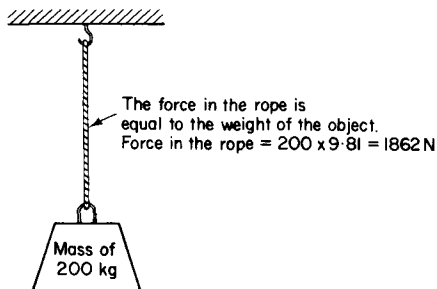

Fig. 2.1
In Fig. 2.1 a mass of 200 kg is supported on the end of a rope. The rope prevents the mass from falling to the ground and hence the force in the rope is equal to the force which the earth exerts on it. That is, the force in the rope is equal to the weight of the mass. The force in the rope is  $200 \times 9.81 = 1862 \text{ newtons}$ .
1. **Tensile forces.** When we pull a piece of elastic it stretches. Whenever a force is applied which tends to increase the length of an object we say that a tensile force has been applied. When an object is supported by a rope as in Fig. 2.1, the rope tends to increase in length and hence it contains a tensile force. The rope itself is said to be in *tension*.